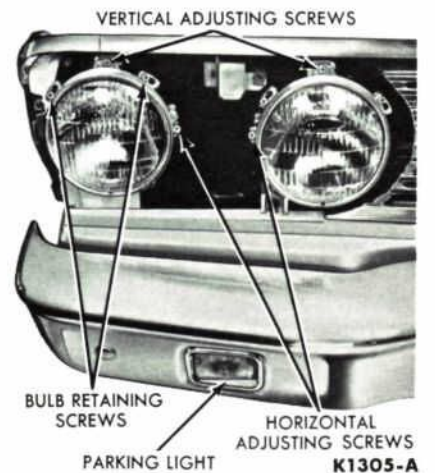

FIG. 49 – Headlight Adjustment
Each headlight is adjusted by means of two screws located under the headlight trim ring as shown in Fig. 49. Always bring each beam into final position by turning the adjusting screws clockwise so that the headlights will be held against the tension springs when the operation is completed.
2. Loosen the retaining ring screws (Fig. 49), rotate the re-